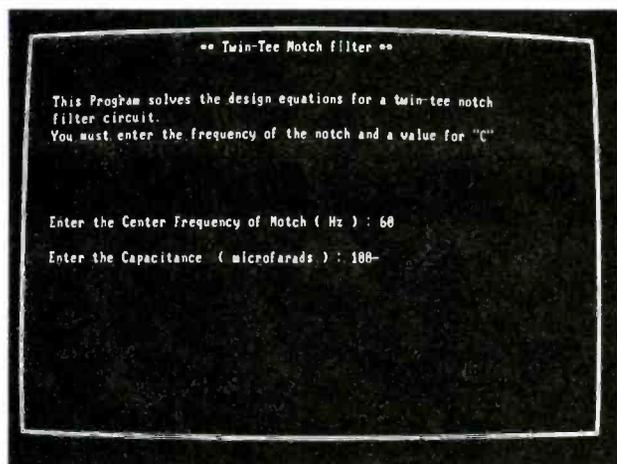

Fig. 6—This menu lets you design an active Tee-Notch filter. You select the center frequency and the main capacitor value.
or 120-Hz hum from a tape recording, we would select item 4, *Filter Designs*, from the main menu, which would eventually lead us to the input screen for a Twin-Tee Notch Filter (Fig. 6). As shown in Fig. 6, in response to screen prompts, we entered the desired center frequency of 60 Hz, and the main capacitance value of 100 μF , because 100- μF capacitors are easy to locate.